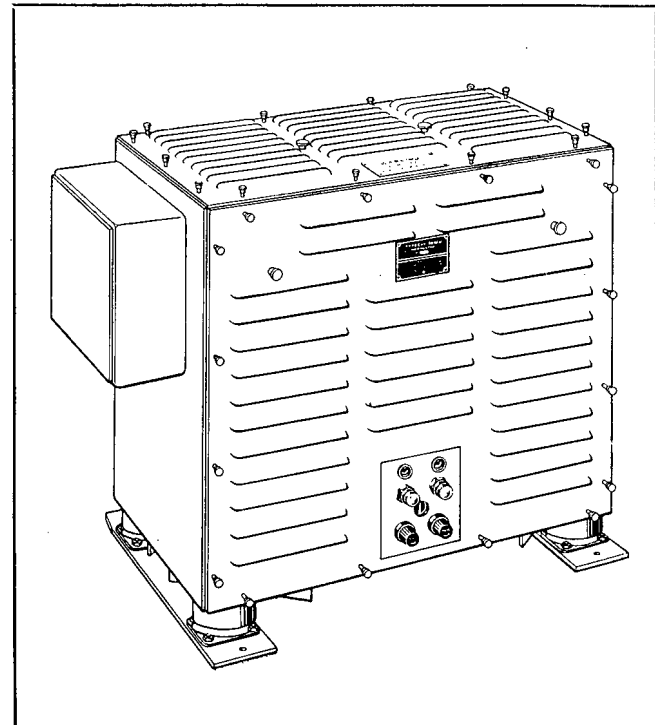

Figure 3-41. Modulator, Front View
(15) Adjust the repetition rate of the Modulator to 120 cps. by means of the REPETITION RATE control (R-2001) located on the panel in the lower center of the front of the unit. This control is shown in Fig. 3-41. The rate should not be set higher than 120 cps. even though slightly better definition may be obtained, because the faster repetition rate will tend to overload the high voltage rectifier in the Transceiver. Connect the 60-cps line voltage across one set of the plates of an oscilloscope and connect the